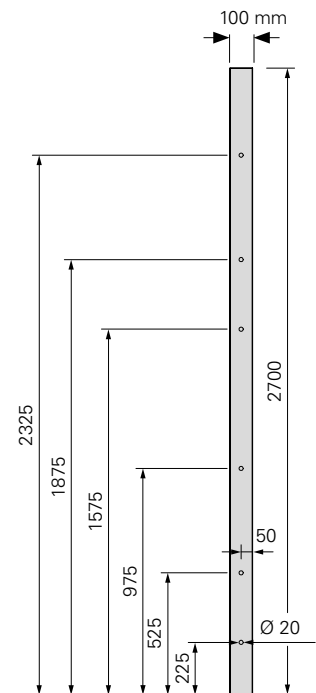

Fig. A3.06c
1. Drill 6 holes with a diameter of 20 mm into square timber that is no more than 5 cm wide. Strictly adhere to the drilling plan (Fig. A3.06c) in order to be able to insert the DUO coupling tie (**22**).